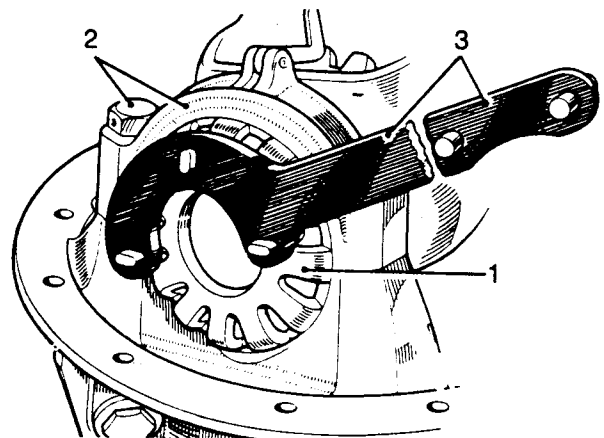

Fig J2.62
- (13) Refer to Fig J2.62. Fit the serrated nuts (1).
- (14) Fit the bearing caps (2). Tighten the securing bolts firmly but not fully.
- (15) Using tool 530105 (3) tighten both serrated nuts to remove all bearing end float without introducing pre-load.